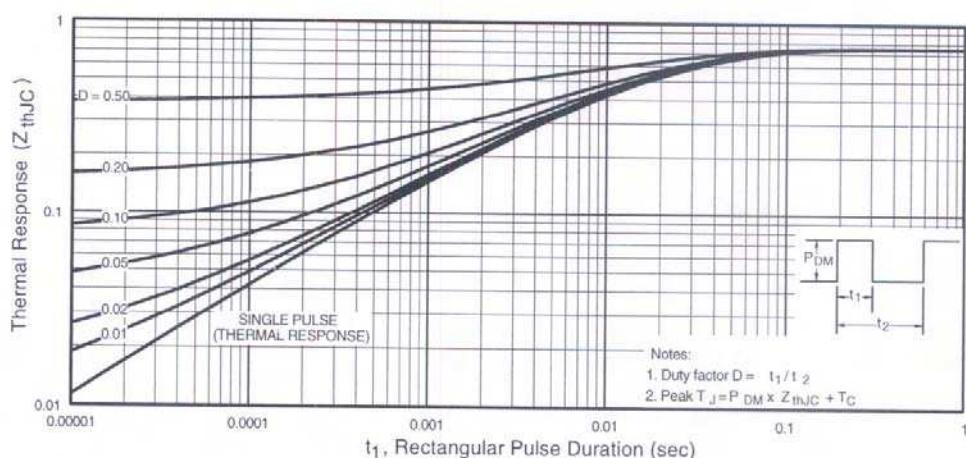

Fig 11. Maximum Effective Transient Thermal Impedance, Junction-to-Case
① Repetitive rating; pulse width limited by max. junction temperature. (See fig. 11)
④ Pulse width $\leq 300\mu\text{s}$; duty cycle $\leq 2\%$.
② Starting $T_J = 25^\circ\text{C}$, $L = 2.4\text{mH}$